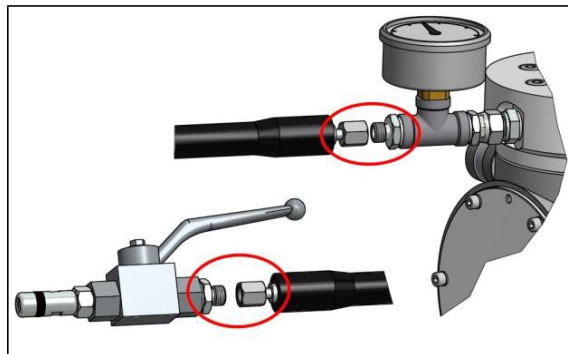

Fig.8.2.5
4. (Fig.8.2.5) Attach and securely screw the respective material hose to the pressure gauge combination and the respective injection head.